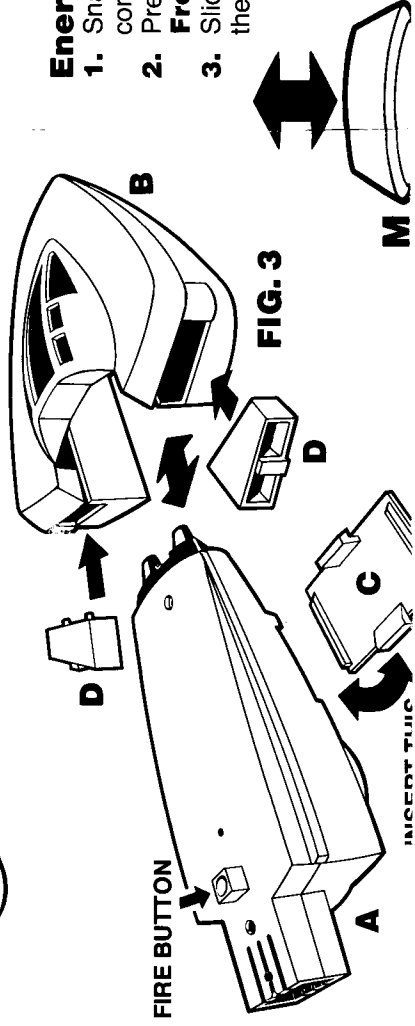

FIG. 3
1. Detach the **Energy Module (A)** from the front hull by pulling straight back (See FIG. 3).
### Energy Module and Front Hull Assembly—See FIG. 3